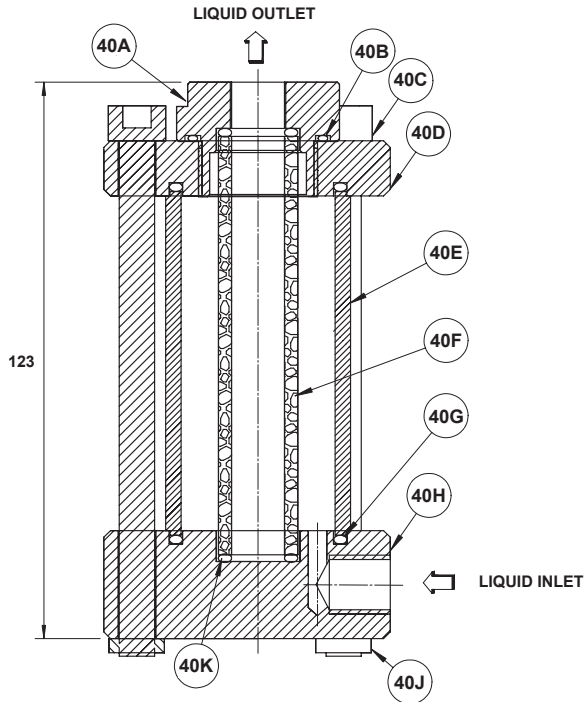

Figure 9. Odorant Filter - Maintenance
Replacement of the Filtering Cartridge (See Figure 9)
Before replacing the filtering cartridge (key 6, Figure 9), all devices mounted on the pneumatic panel have to drain out the odorizing liquid they contain.